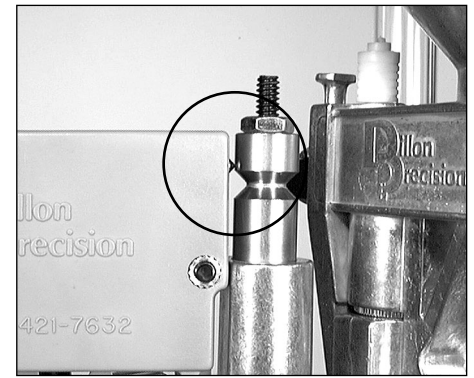

FIG 144
1. Place a primed but empty case (case with no powder) into Station 3 and raise the platform. The contact pin is above the groove **FIG 144** (the alarm sounds) indicating that the case has a low or no charge.